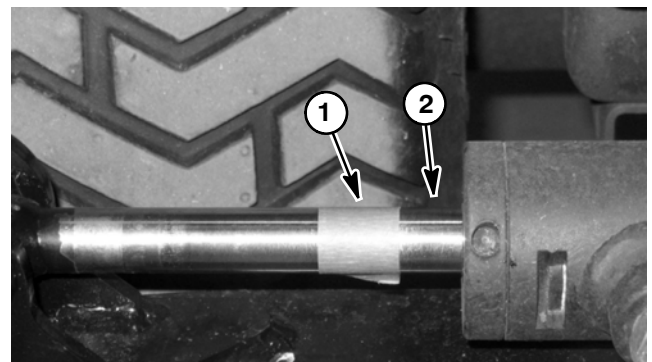

Figure 51
7. Leave the machine parked for two (2) hours and monitor the lift cylinder. The weight of the cutting unit may cause the lift cylinder to gradually extend. Use the tape location to determine lift cylinder rod movement (Fig. 51).
A. If lift cylinder rod movement is less than 1.250" (31.7 mm) after two (2) hours, make sure that the cutting unit has not settled to the ground. If the cutting unit is still suspended after two (2) hours and lift cylinder rod movement is less than 1.250" (31.7 mm), consider that the lift cylinder is in good condition. A cylinder in good, usable condition will show minimal movement.
B. Rod movement in excess of 1.250" (31.7 mm) after two (2) hours indicates that the lift cylinder may have internal seal damage or excessive wear. Remove and inspect the lift cylinder (see Lift Cylinder and Lift Cylinder Service in the Service and Repairs section of this chapter).